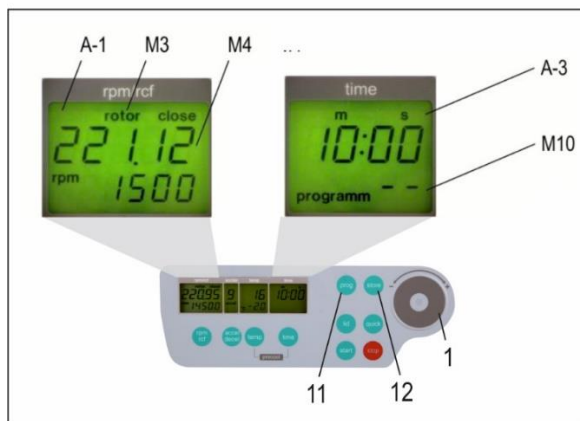
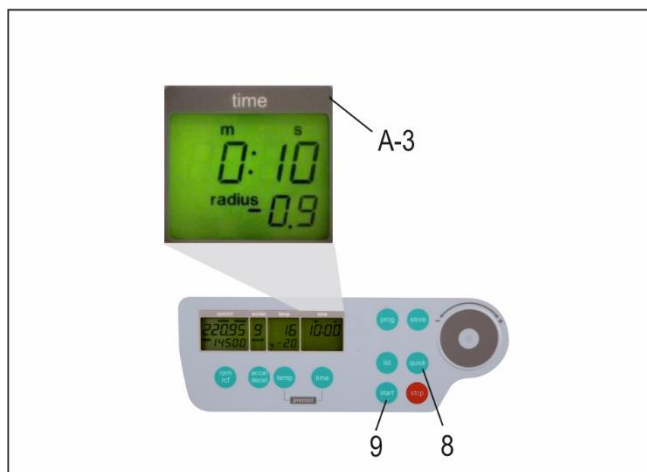

Figure 26
Figure 27
Close the lid of the centrifuge, now proceed as described above, to set all important run parameters. If the lid isn't closed, when storing the program in the display "rpm/rcf" (A-1), flashes alternately the word "FirSt" and "CLOSE Lid" (see Figure 26). When starting the run without storing the program, in the display "rpm/rcf" (A-1), flashes alternately the word "First" and "PrESS StoreE", (see Figure 27).
For all number marked text, please refer to Figure 26.
By releasing the "quick" key (8), the centrifuge stops and the running time is indicated, until the lid is opened. (See Figure 27).